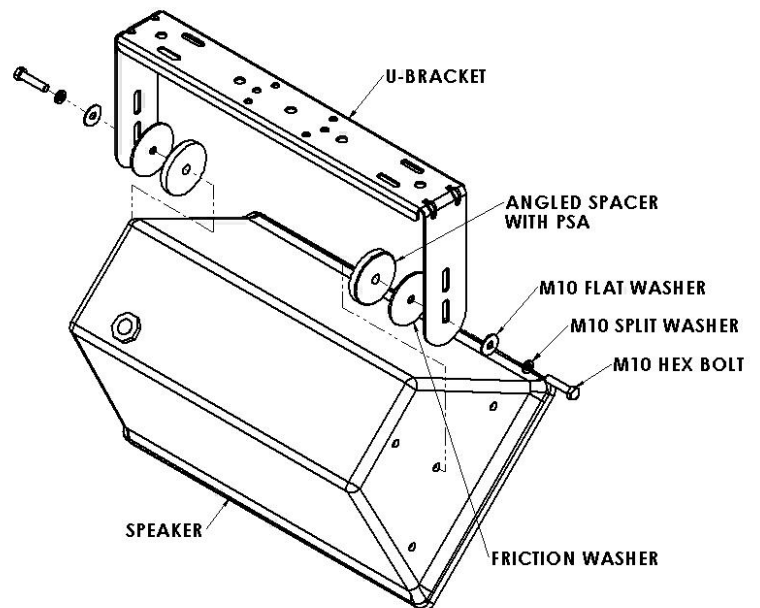

Figure 1
Step 2: Peel off the paper and stick the Angled spacer to the center mounting holes of the speaker cabinet. Make sure the holes are lined up and the speaker's tapered side match the angle on the angled spacer to create a flat surface (Figure 1).
Step 3: Place the speaker with the angled spacer between the U-Bracket's arms. Insert the M10 hex bolt, flat washer and split lock washer through the slots in the arms with the sound isolation gasket in between the angled spacer and the bracket. Thread the bolt into the loudspeaker. Repeat on the other side of the speaker (Figure 1). Do not fully tighten yet.